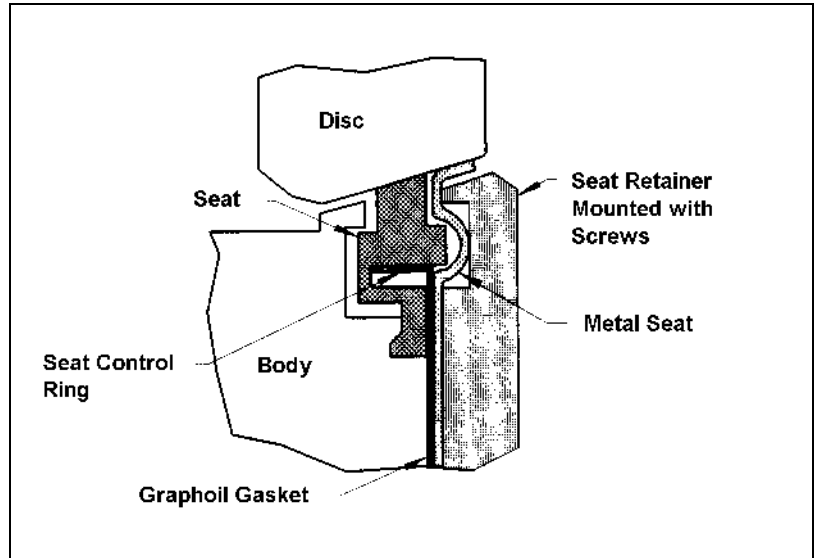

Figure 3 — (FB) Fyre-Block Seat Options
- (FB) Fyre-Block Seat Options (RTS2 and TTS2)—see Figure 3 on page 11